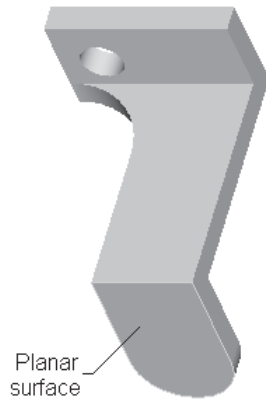

Figure 5-40 Planar surface
- d. The sketch of the third feature will be created on the front planar surface of the second feature and will be extruded on one side of the sketching plane. The depth of extrusion is 10, see Figure 5-40.
2. Select the planar surface shown in Figure 5-40 as the sketching plane. The extrusion of the cylindrical feature will be on both sides of the front planar surface. The **DIRECTION** submenu is displayed.